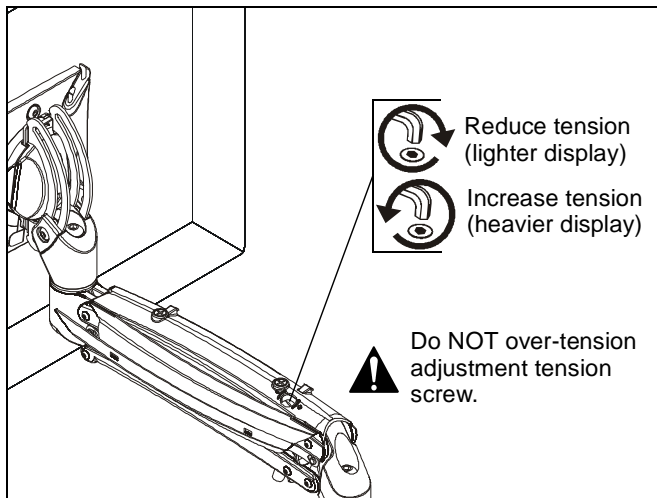

Figure 16
- Tension may be adjusted with tension adjustment screw inside cable management cover and 1/8" hex key (L). Turn clockwise to reduce tension or counter-clockwise to increase tension. (See Figure 16)